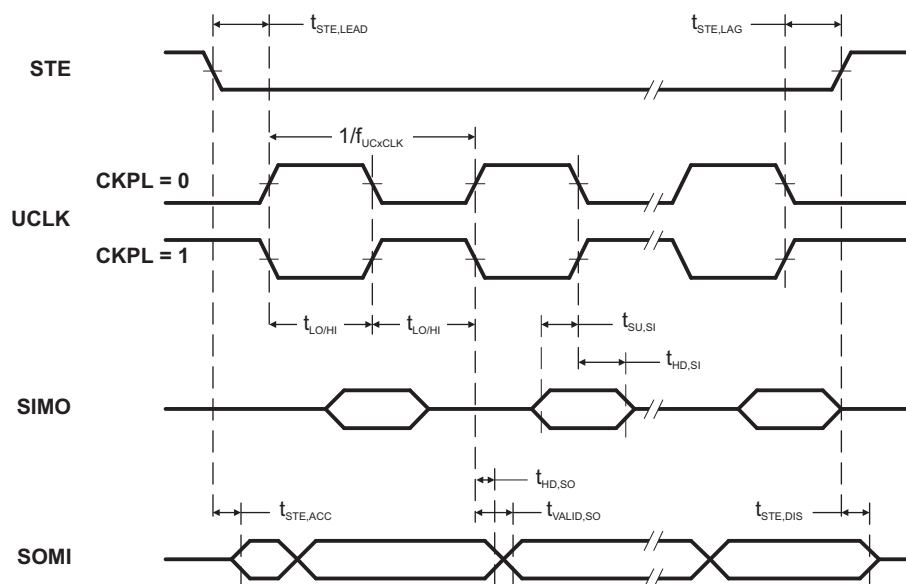

Figure 14. SPI Slave Mode, CKPH = 0
(see Note (1), Figure 14 and Figure 15)